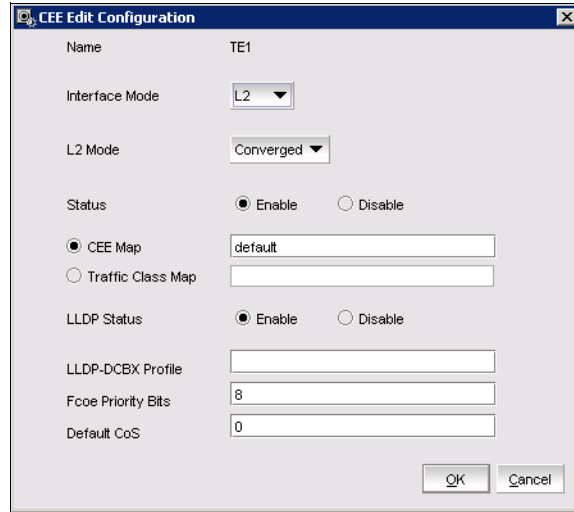

Figure 5-20 CEE Edit Configuration dialog box
4. Click **Edit Configuration**. The CEE Edit Configuration dialog box is displayed (Figure 5-20).